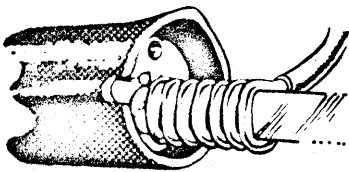

Figure 8-3c. Wire-Wrap Procedure
6. Hold the tool on the terminal and squeeze the trigger to wrap the wire on the terminal. The tool will automatically recede as the wire coils on the terminal. Release trigger and remove tool from terminal. The Wire-Wrap connection is complete (Figure 8-3c).